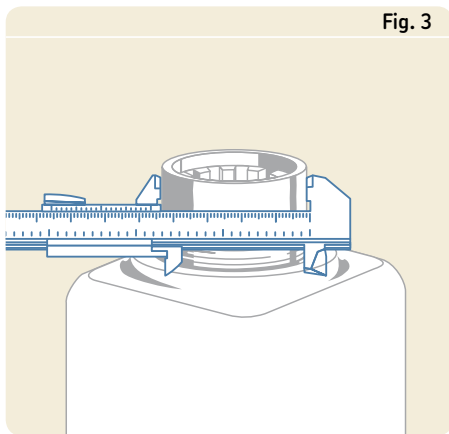

Fig. 3
- 2 Measure the diameter on an unworn portion of the shaft where the sleeve will be positioned (→ fig. 3). Measure in three positions and average the readings to make sure the shaft is within recommended specifications. If the average diameter is within the range for a given sleeve size, there is sufficient press fit built into the sleeve to prevent it from sliding or spinning without using an adhesive.